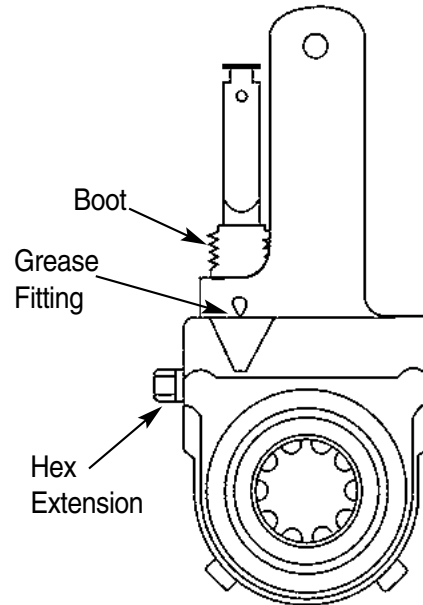

Figure 1 - Lubrication Points
1. A grease fitting is provided to allow lubrication during normal chassis servicing (see fig. 1). With a conventional grease gun, lubricate until grease appears on the camshaft, or grease flows from the grease relief.